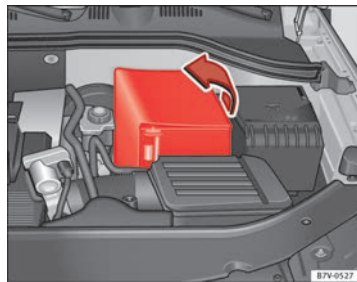

Fig. 176 In the engine compartment: Unfold the vehicle's battery hose.
- In the case of a hose: fold the cover to one side to remove ⇒ fig. 176.